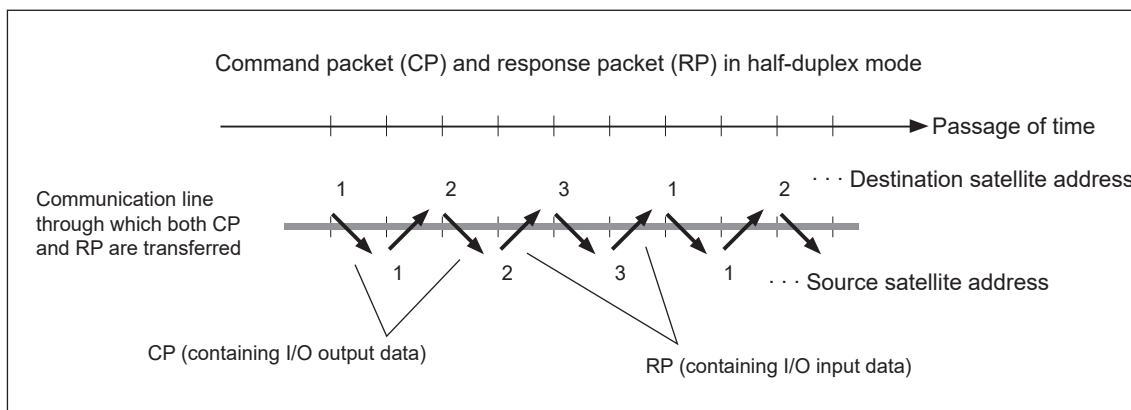
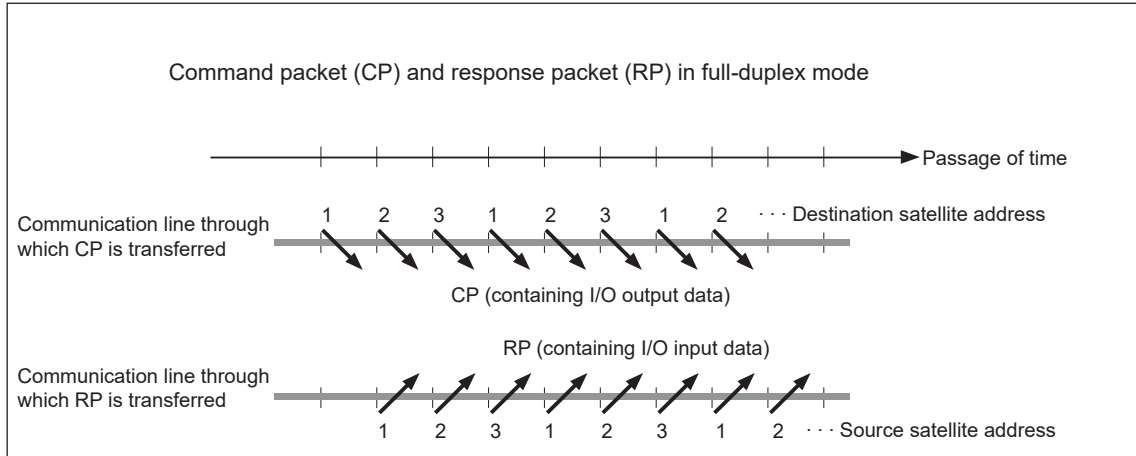

Fig. 6.1 Transfer of CP and RP in Half-duplex
Fig. 6.2 Transfer of CP and RP in Full-duplex
- In the HLS, automatic scanning between the center IC and satellite ICs is performed constantly by a serial pattern format command packet (CP) and response packet (RP) tailored specifically for the HLS.
- Figure 6.1 shows the transfer of the CP and RP in half-duplex mode on the network based on the passage of time. This indicates actual scanning in the HLS. The details are explained below.
- (1) To operate the HLS, set (write) the Final Satellite (FS) scanning value to the given register in the center IC from the user system. Figure 6.1 shows an example of starting the operation of the HLS by writing “3” (03H) as the FS to the center IC.
- (2) The center IC sequentially sends the CP from “SA = 1” to “SA = FS” to the satellite IC at regular intervals, that are repeated automatically. This CP contains data which is in the address corresponding to the SA that sends the CP in the center IC (memory).
- (3) When the satellite IC receives the CP sent to its own SA, it updates the state of the output port based on this CP, and immediately returns the RP containing the state of the input port as data to the center IC. The CP and RP appear regularly one after the other on the network as shown in Figure 6.1.
- (4) When the center IC receives the RP from the satellite IC, it updates the data in the center IC (memory) for the address corresponding to the SA that sent the RP to the latest received data.
- (5) Automatically repeated scanning and updating causes the bit state in memory controlled by the center IC to be the same as the I/O state of the remote terminal. In this operation, both constancy and realtimeness are assured.
- Figure 6.2 shows the transfer of the CP and RP in the full-duplex mode on the network based on the passage of time. In full-duplex mode, each CP and RP propagates through a dedicated communication line, which enables the center IC to receive a RP while sending the next CP. Therefore, the CP sending interval is shortened, resulting in a faster scan time.